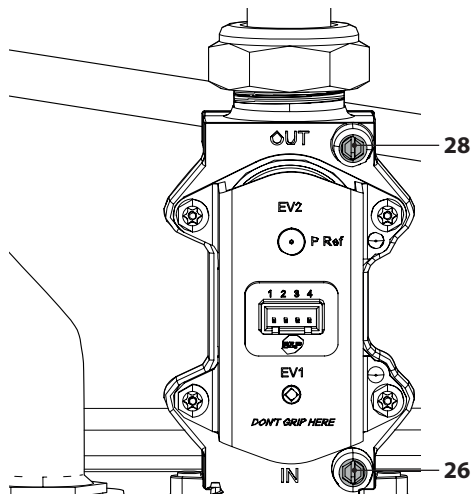

Figure 7.1
- With the boiler turned off (out of service), check the supply pressure using the tapping point 26 in Figure 7.1 and compare the value read with those shown in the Gas supply pressure table in section "Technical data M300V.1616 SV" on page 26, "Technical data M300V.2025 SV" page 29 and "Technical data M300V.3035 SV" page 32.
- Fully close the tapping point 26 in Figure 7.1.